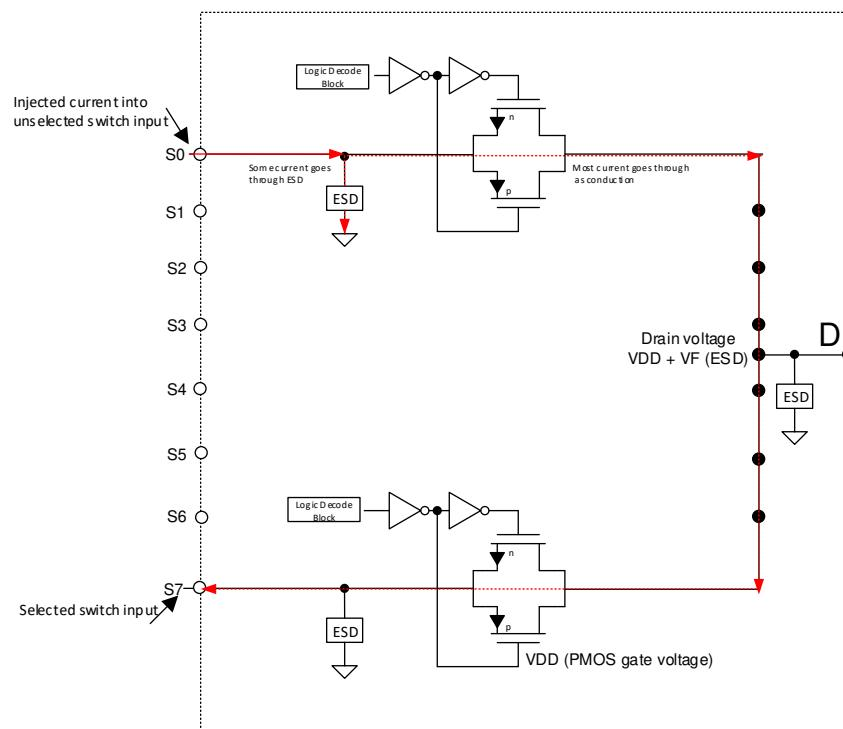

Figure 9-1. Simplified Diagram of Typical CMOS Switch and Associated Injected Current Path
Injected Current Impact: typical CMOS switches have ESD protection diodes on the inputs and outputs. These diodes not only serve as ESD protection but also provide a voltage clamp to prevent the inputs or outputs going above V_{DD} or below GND and V_{SS} . When current is injected into the pin of a disabled signal path, a small amount of current goes through the ESD diode but most of the current goes through conduction to the drain. If forward diode voltage of the ESD diode (VF) is greater than the PMOS threshold voltage (VT), then the PMOS of all OFF switches turns ON and there would be undesirable subthreshold leakage between the source and the drain that can lift the OFF source pins up also. Figure 9-1 shows a simplified diagram of a typical CMOS switch and associated injected current path.